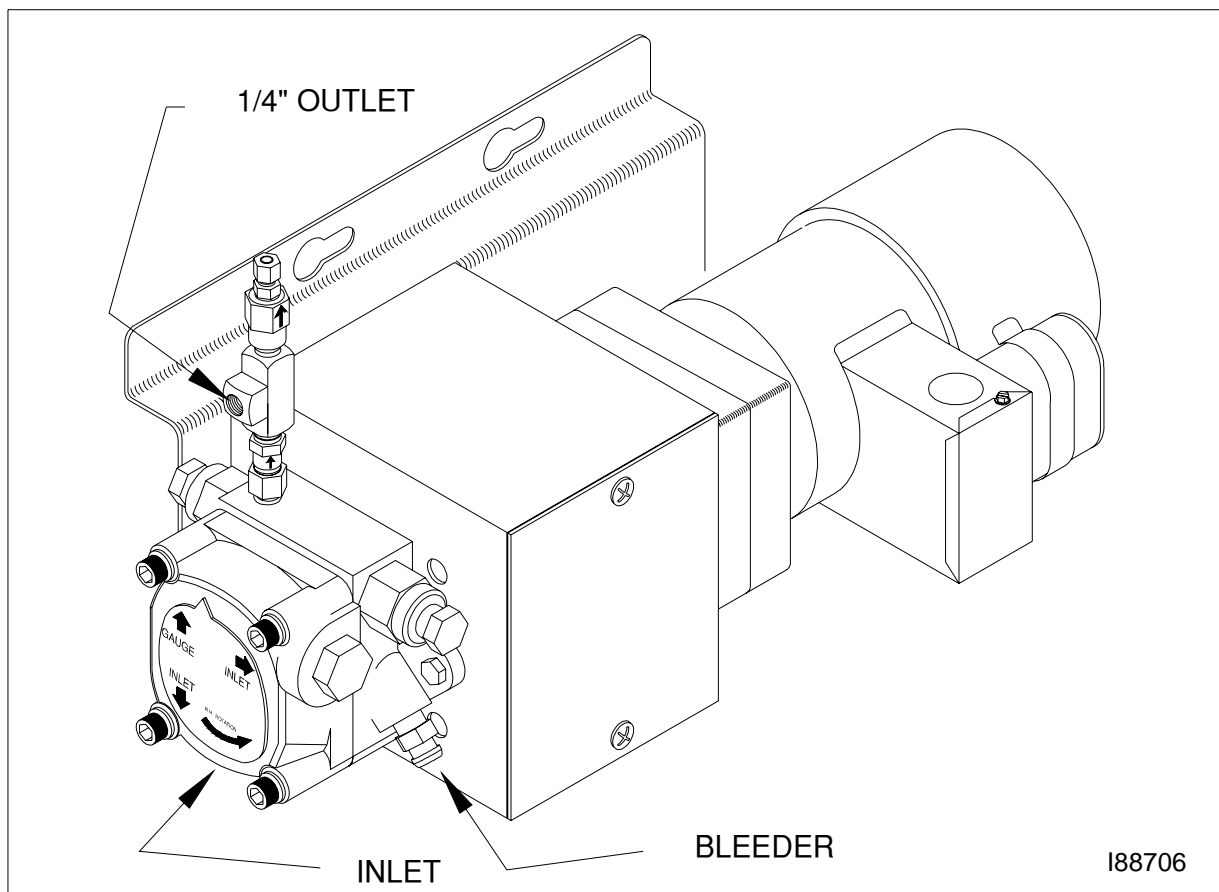

Figure 4D - Standard (Recommended) Vertical Mounting of the Metering Pump
Before starting installation of the metering pump, review Figures 4D, 4E, and 4F to become familiar with the metering pump components. You will also need to accomplish the following activities:
1. Refer to Figures 4D, 4E, and 4F. Note that the metering pump is shipped with the pump head already positioned for the standard vertical wall mounting.